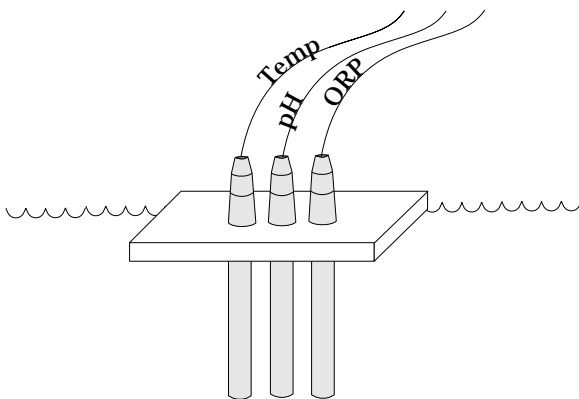

Figure 2.4 • In-Filter Location Using Float
- In-Filter Location Using a Float (Figure 2.4).
In-Filter Location Using a Float—The float installation shown in Figure 2.4 keeps probes from being submerged (or drying out), and is economical to construct.
To construct a probe float, punch a hole (slightly smaller than the probe diameter) through a small piece of styrofoam. Be sure the probes are no further than 6 inches apart. Insert the probes into the float, as shown in Figure 2.4.